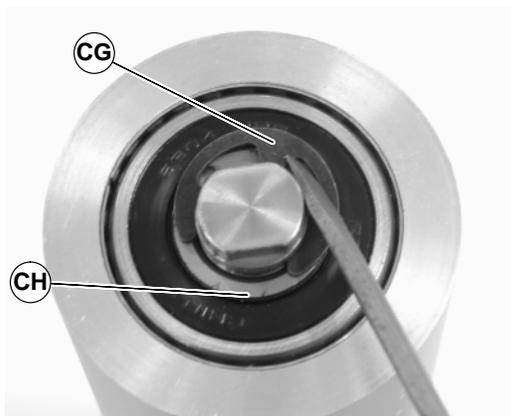

Figure 62
5. Remove the pulley shaft assembly: remove the clip ring (CG of Figure 62) and washer (CH) from one side of the pulley assembly.